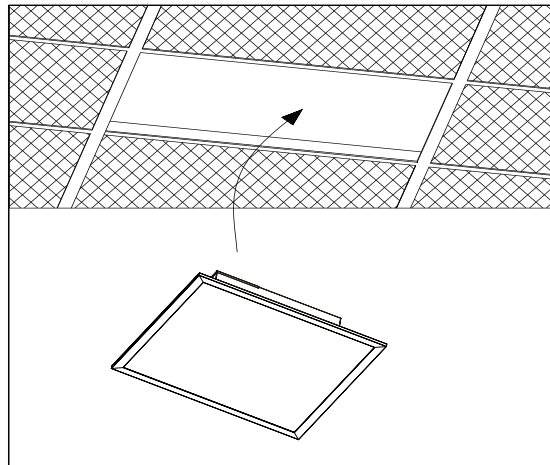

Figure 2
4. Fixture needs to pass through the grid at a 45-degree angle and the fixture needs to lay on the grid (Fig. 2)